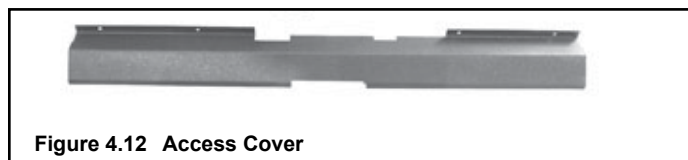

Figure 4.12 Access Cover
- Remove two screws and take off access cover shown in Figure 4.12.